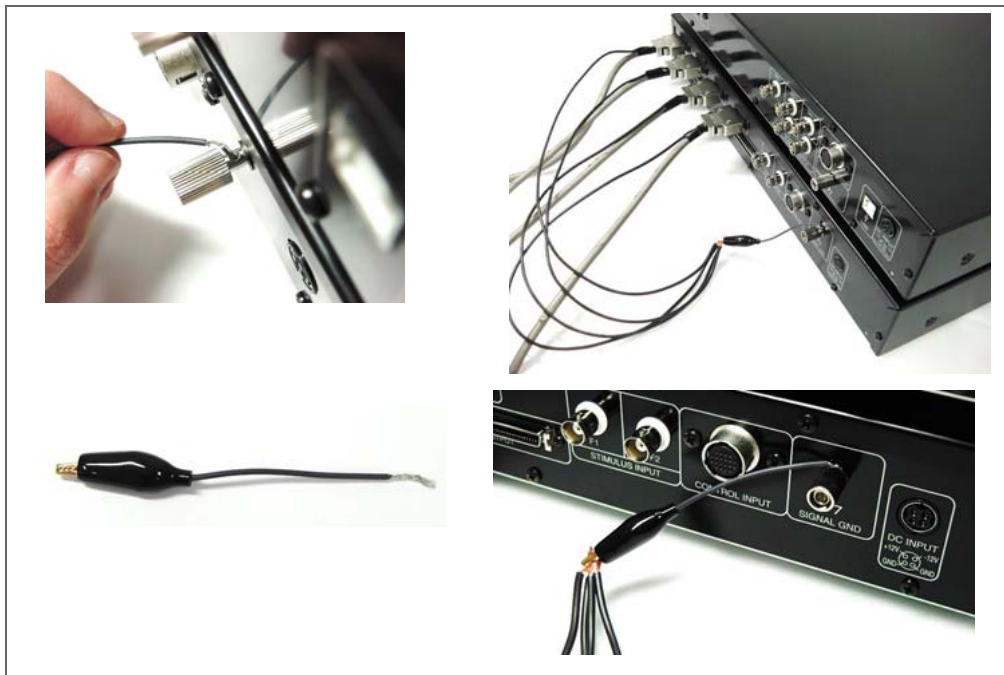

Figure 6. Grounding the Connector cables to the GND terminal in the MED64 Head Amplifier.
- Let the ground wires for all Connectors go THROUGH the hole at the GND (Figure 2-3, top-left) to secure the grounding. If this cannot be made, use the short grounding wire (Figure 6, bottom left) to ground the all cables (Figure 6, right).